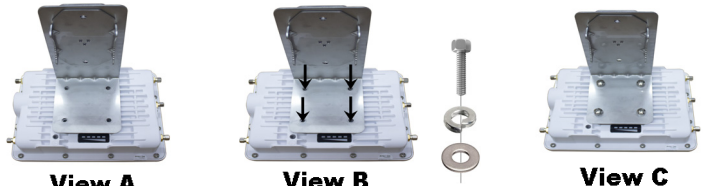

Figure 3: Assemble the Mounting Hardware
2. Insert the Screw, Spring Washer and Flat Washer into the four mounting holes as shown in Figure 3 view (B).
4. The last image in Figure 3 view (C) shows the fully assembled mounting hardware attached to the device.